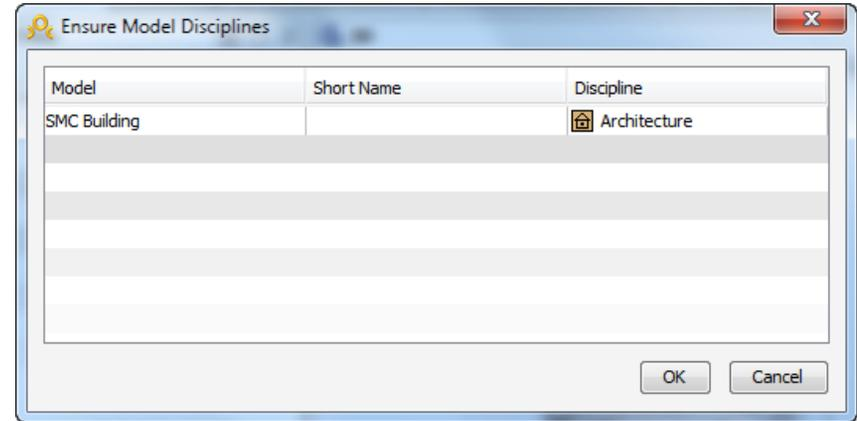

Figure 9 Ensuring Model Disciplines
- 3) Model discipline, when the model is opened you will be asked to verify the discipline the model belongs to. Setting the correct discipline is paramount for the rules to work correctly, see Figure 9.